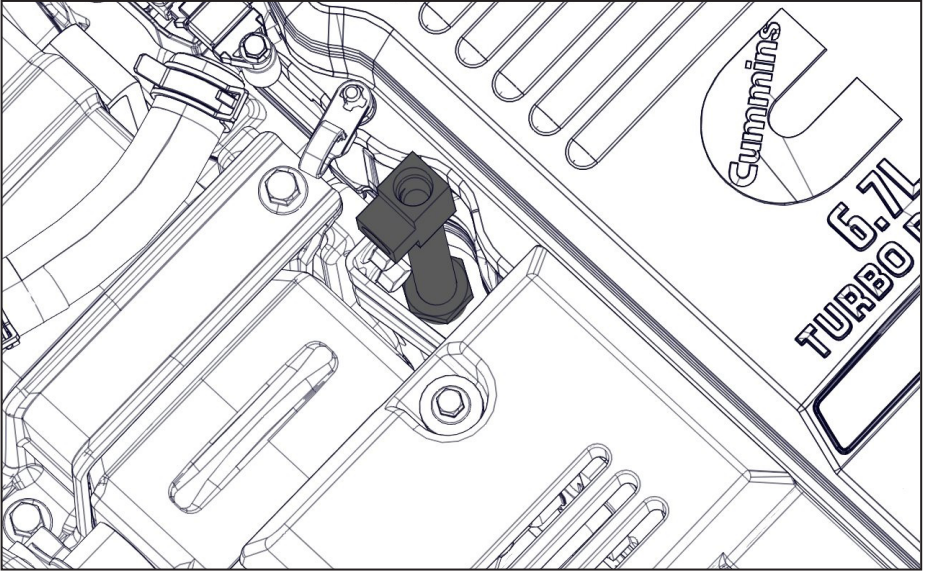

Figure 38 — Install pipe nipple
- ☐ Apply Loctite 567 (thread sealant) to the threads of the brass bushing and install the assembly into the cylinder head with the tee facing toward the passenger side of the vehicle (Figure 38).